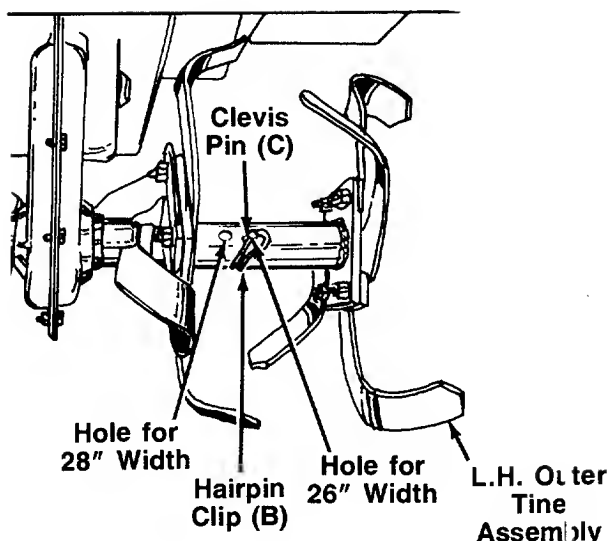

FIGURE 12.
The inner tine assemblies are installed in their correct position at the factory. Check to be certain the tine assemblies are on the tine shaft so that the sharp edge enters the soil first. See figure 12.
1. Align one of the holes in the tine assembly with the hole in the tine shaft. Using the end hole on the tine assembly will give a tilling width of 28". Using the second hole will give a tilling width of 26". See figure 12.
2. Secure with clevis pin (C) and hairpin clip (B).